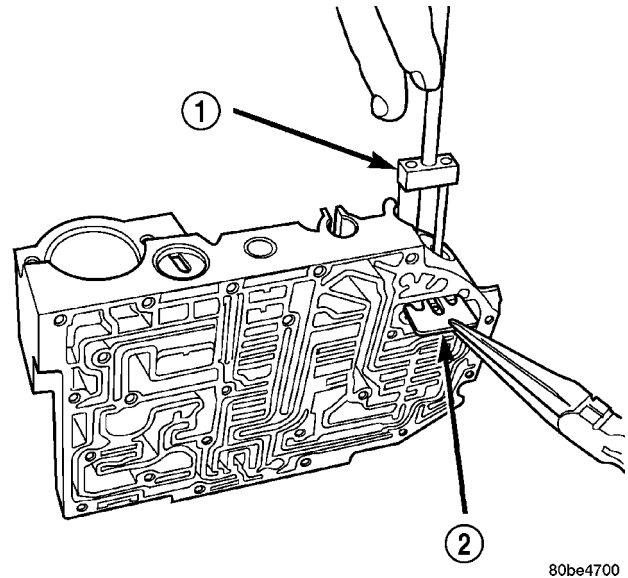

Fig. 358 Install Dual Retainer Plate using Tool 6301
- (3) Install dual retainer plate using Tool 6301 (Fig. 358).